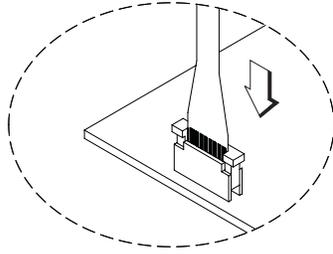

Figure 53. Inserting the flexible cable
2. Remove the flexible cable from the connector (see Figure 53 on page 55).
2. Insert the flexible cable into the connector, making sure that the shiny side is the position shown in Figure 53 on page 55.